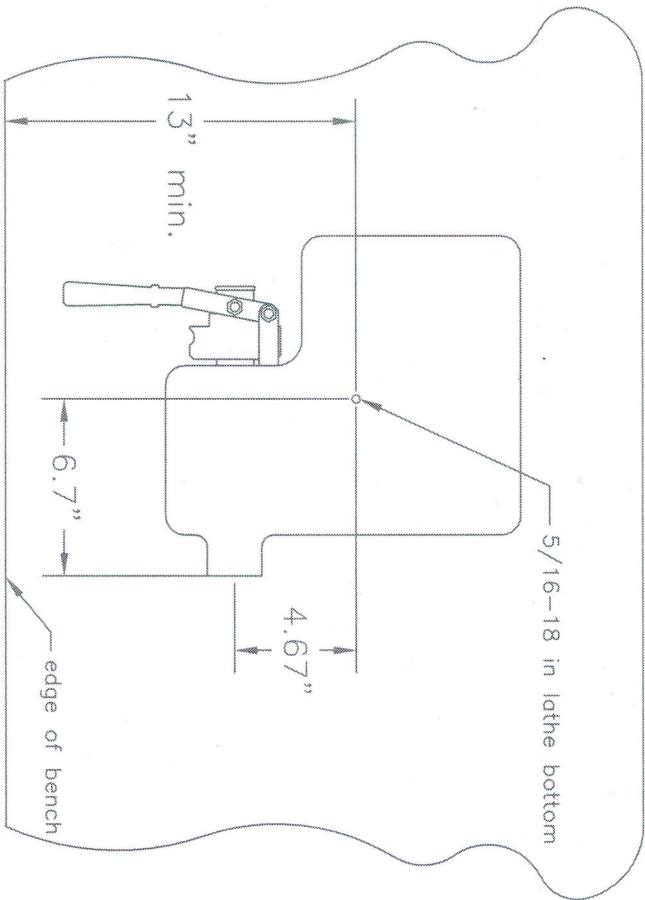

FIGURE 1
2.1 Setting up and mounting the LT-1BR (See figure 1)